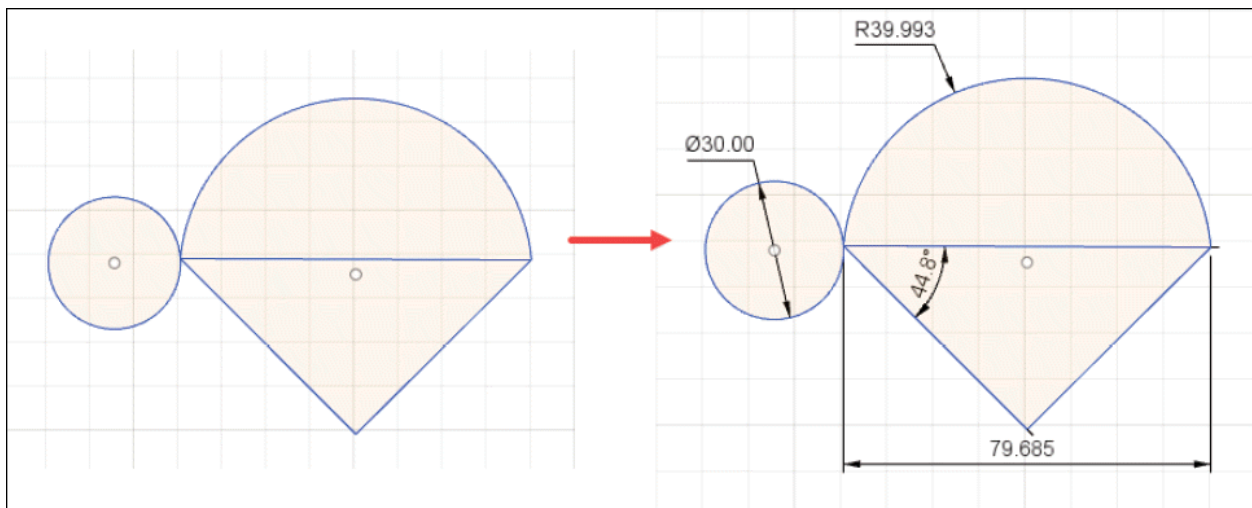

Figure-65. Applying the dimension
- Select the entity you want to dimension and then click at desired distance to place dimension; refer to Figure-65.